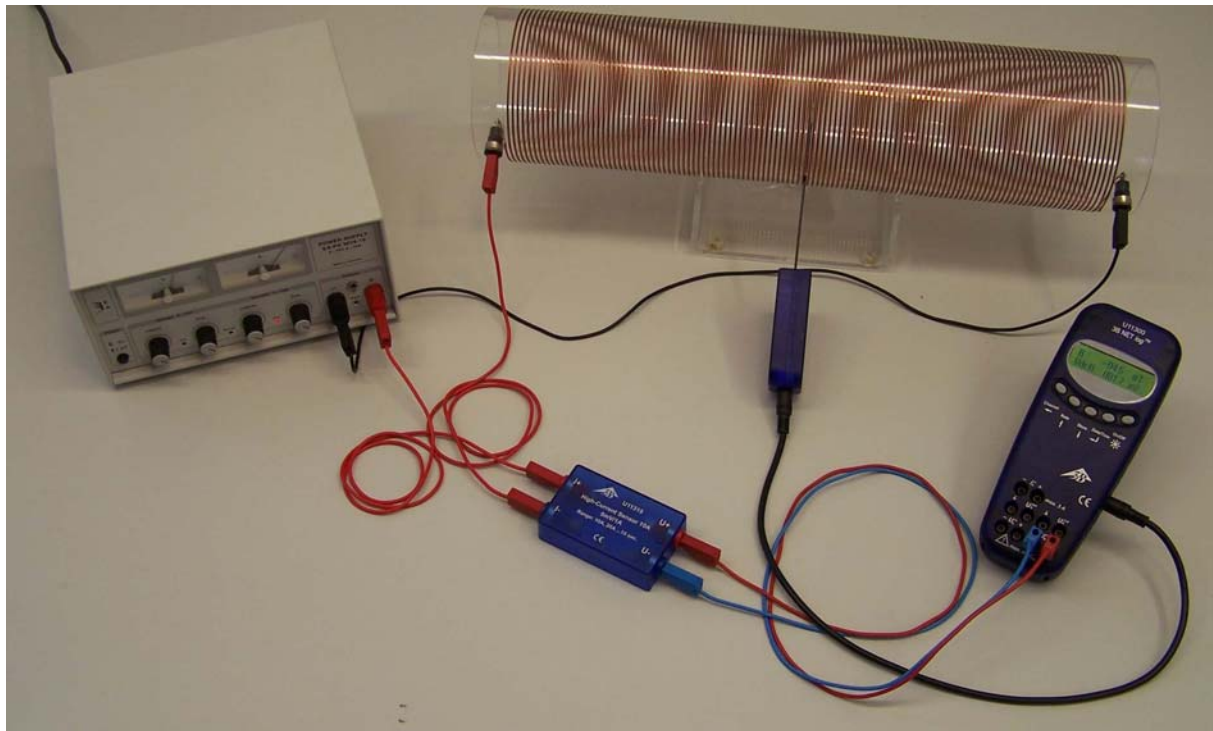

Fig. 1: Measuring the magnetic field of a current-carrying coil
- Set up the experiment according to Fig. 1